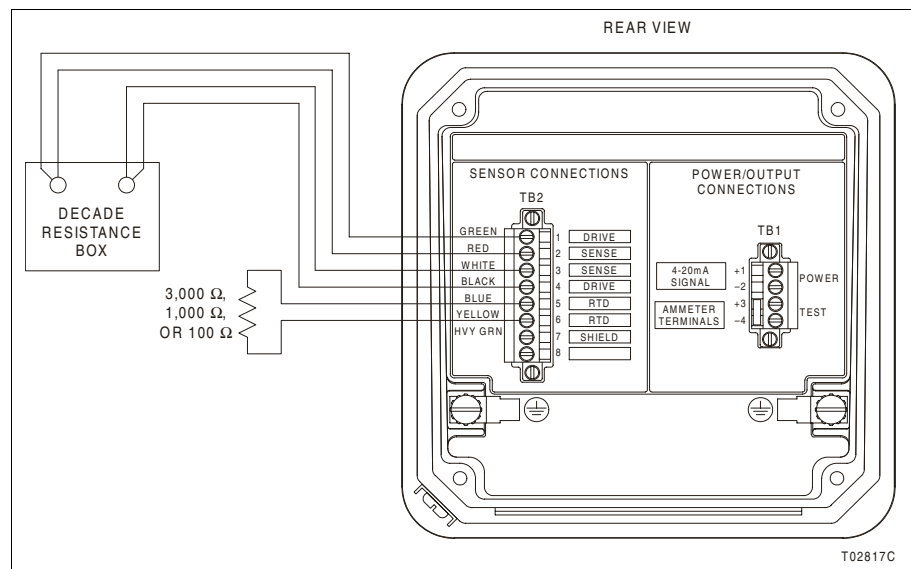

Figure PR45-1. Sensor Simulation Setup
2. There are two ways to perform sensor simulation. Either connect a 3000- $\Omega$  resistor across the temperature sensor input as shown in Figure PR45-1, or configure the transmitter for manual temperature compensation with a constant 25°C temperature.
3. Connect the transmitter in the setup shown in Figure PR45-1.